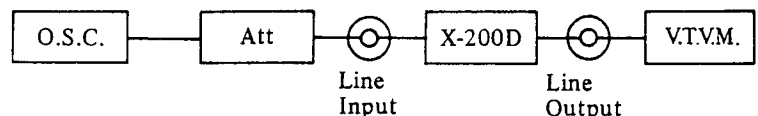

Fig. 7-2
- 1) As shown in Fig. 7-2, connect an Audio Oscillator and Attenuator to the Line Input. Connect a High-sensitivity V.T.V.M. to the Line Output.